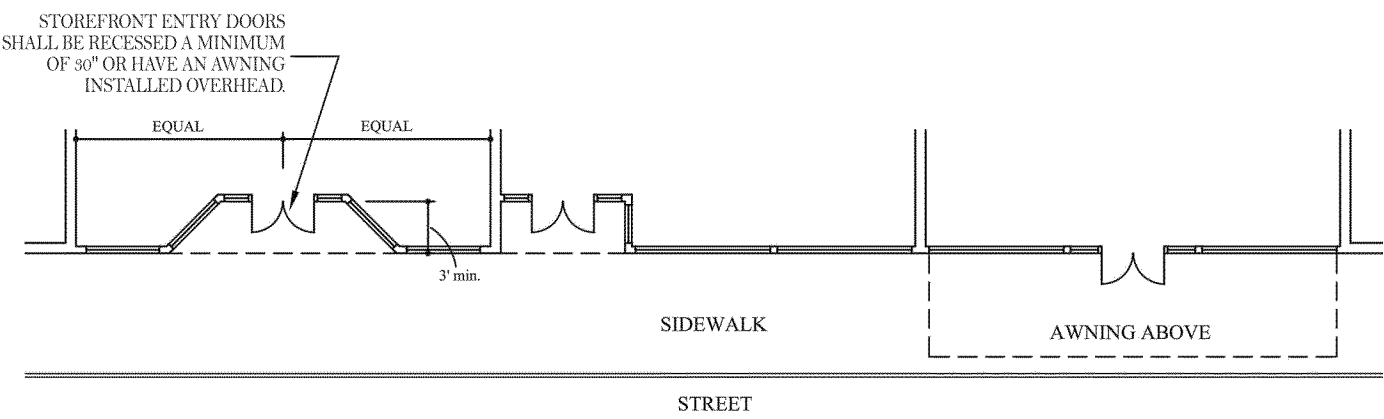

Figure 2
- » Storefront entry doors shall be recessed a minimum of 30" or have an awning installed overhead and located near the center of the storefront, except at corners. See Figure 2.